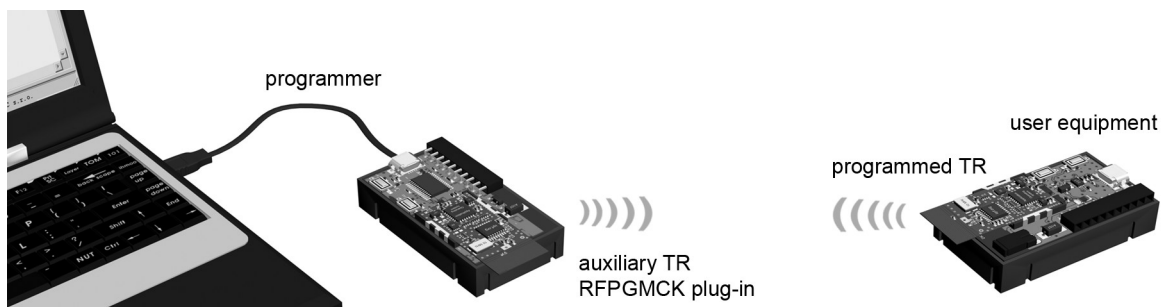

Fig. 2: Wireless upload (RFPGM)
4. **Development phase:** Arrange both TR modules according to Fig. 2 for RFPGM upload and activate the *RF Programming* checkbox.